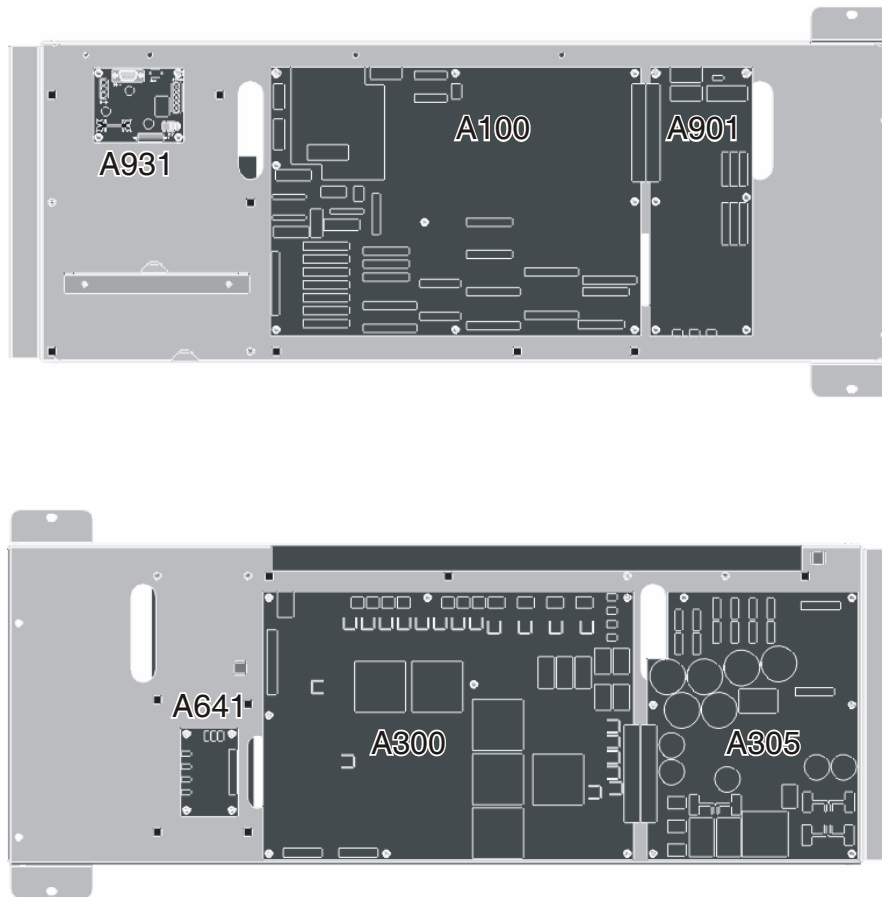

Fig. 11-19 Board APOCONV 400 kVA
**NOTE** Mounting plates see Fig. 11-19 and Fig. 11-20.